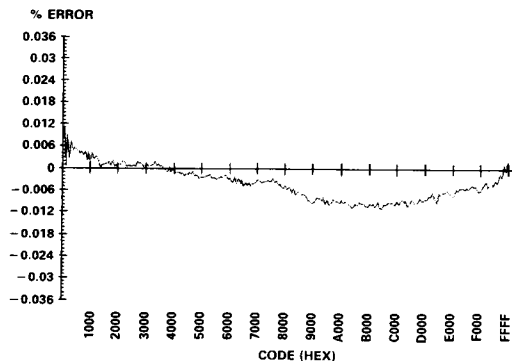

Figure 4. Typical Linearity
**LINEARITY ERROR:** Analog Devices defines linearity error as the maximum deviation of the actual, adjusted DAC output from the ideal output (a straight line drawn from 0 to FS-1LSB) for any bit combination. The AD569's linearity is primarily limited by resistor uniformity in the first divider (upper byte of 16-bit input). The plot in Figure 4 shows the AD569's typical linearity error across the entire output range to be within  $\pm 0.01\%$  of full scale. At  $25^\circ\text{C}$  the maximum linearity error for the AD569JN, AD and SD grades is specified to be  $\pm 0.04\%$ , and  $\pm 0.024\%$  for the KN and BD versions.